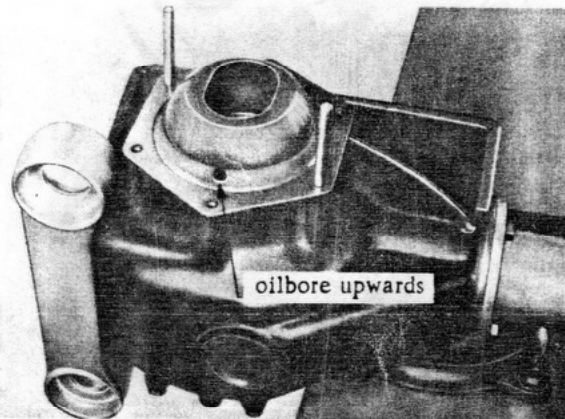

Fig. 36
2. Using guide bolts, fit inner bearing cover-plate to outer face of axle casing. (See Fig. 36).